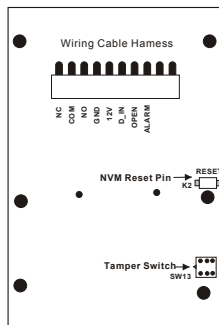

Figure 3
To reset the flash memory (see figure 3), turn off the power, press the RESET key (K2) on the PCB, hold it and re-power the device, keep holding it for around 5 seconds until hear beeps, means reset to factory default setting successfully.
- 1.Unplug the cable harness and connect the necessary cables, (See Figure 3).
- 3.Plug in the cable harness on the PCB, (See Figure 3)